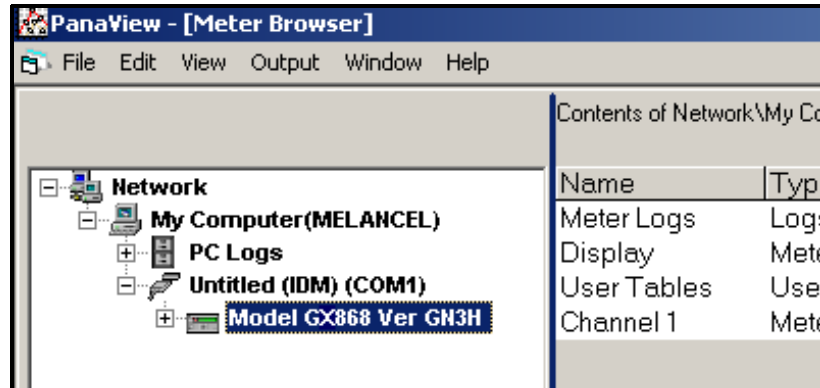

Figure 23: Updated Network Tree
If the initialization is successful, the Meter Browser shows a listing similar to Figure 23.
1. Highlight the meter (as shown in Figure 23 on page 116).